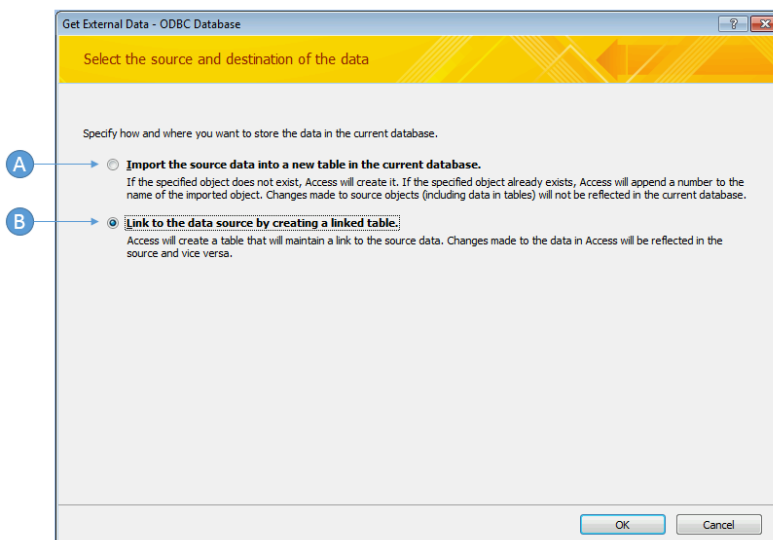

Figure 8-10 MS-Access Get External Data - ODBC Database
You will now be asked how you wish to import the data (Figure 8-10). You can either copy the data directly into the report tool (A), or create an active link to the data (B). If you are still acquiring data in this database, it would be best to create the active link (B). However, if you are done acquiring data and want to copy the report tool populated with your data to another system, you will need to use the copy option (A). Once you have made your selection, press the **OK** button to proceed.